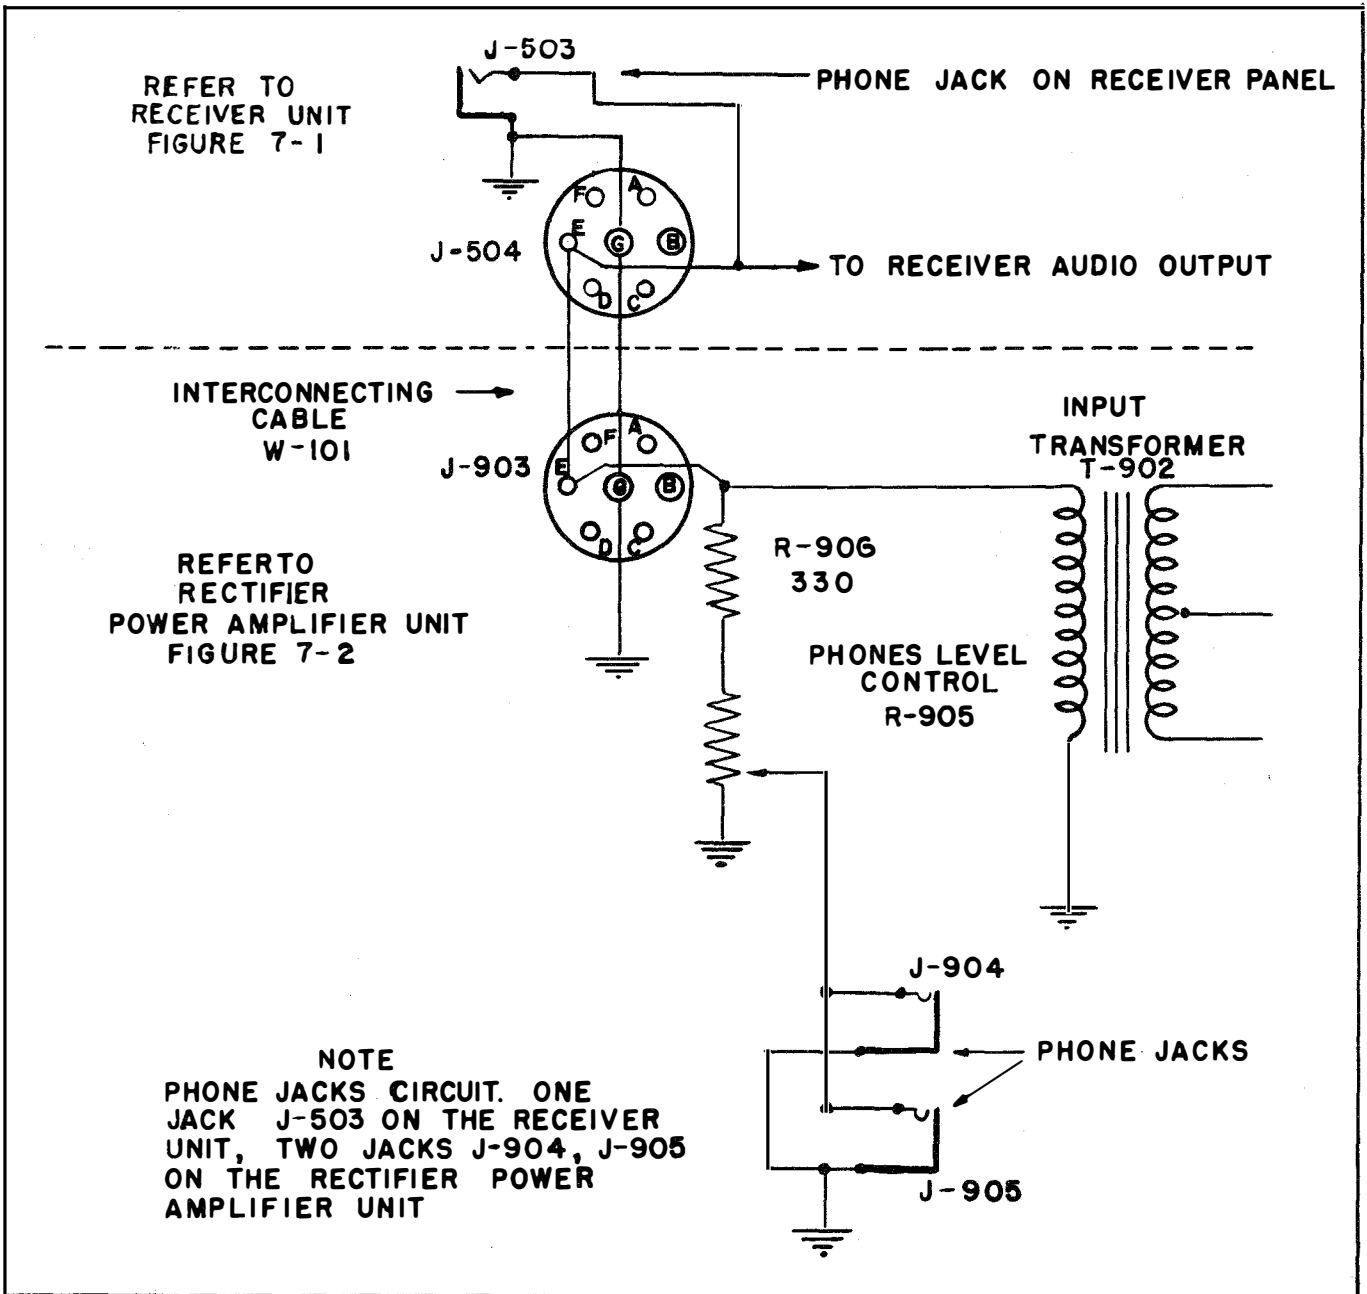
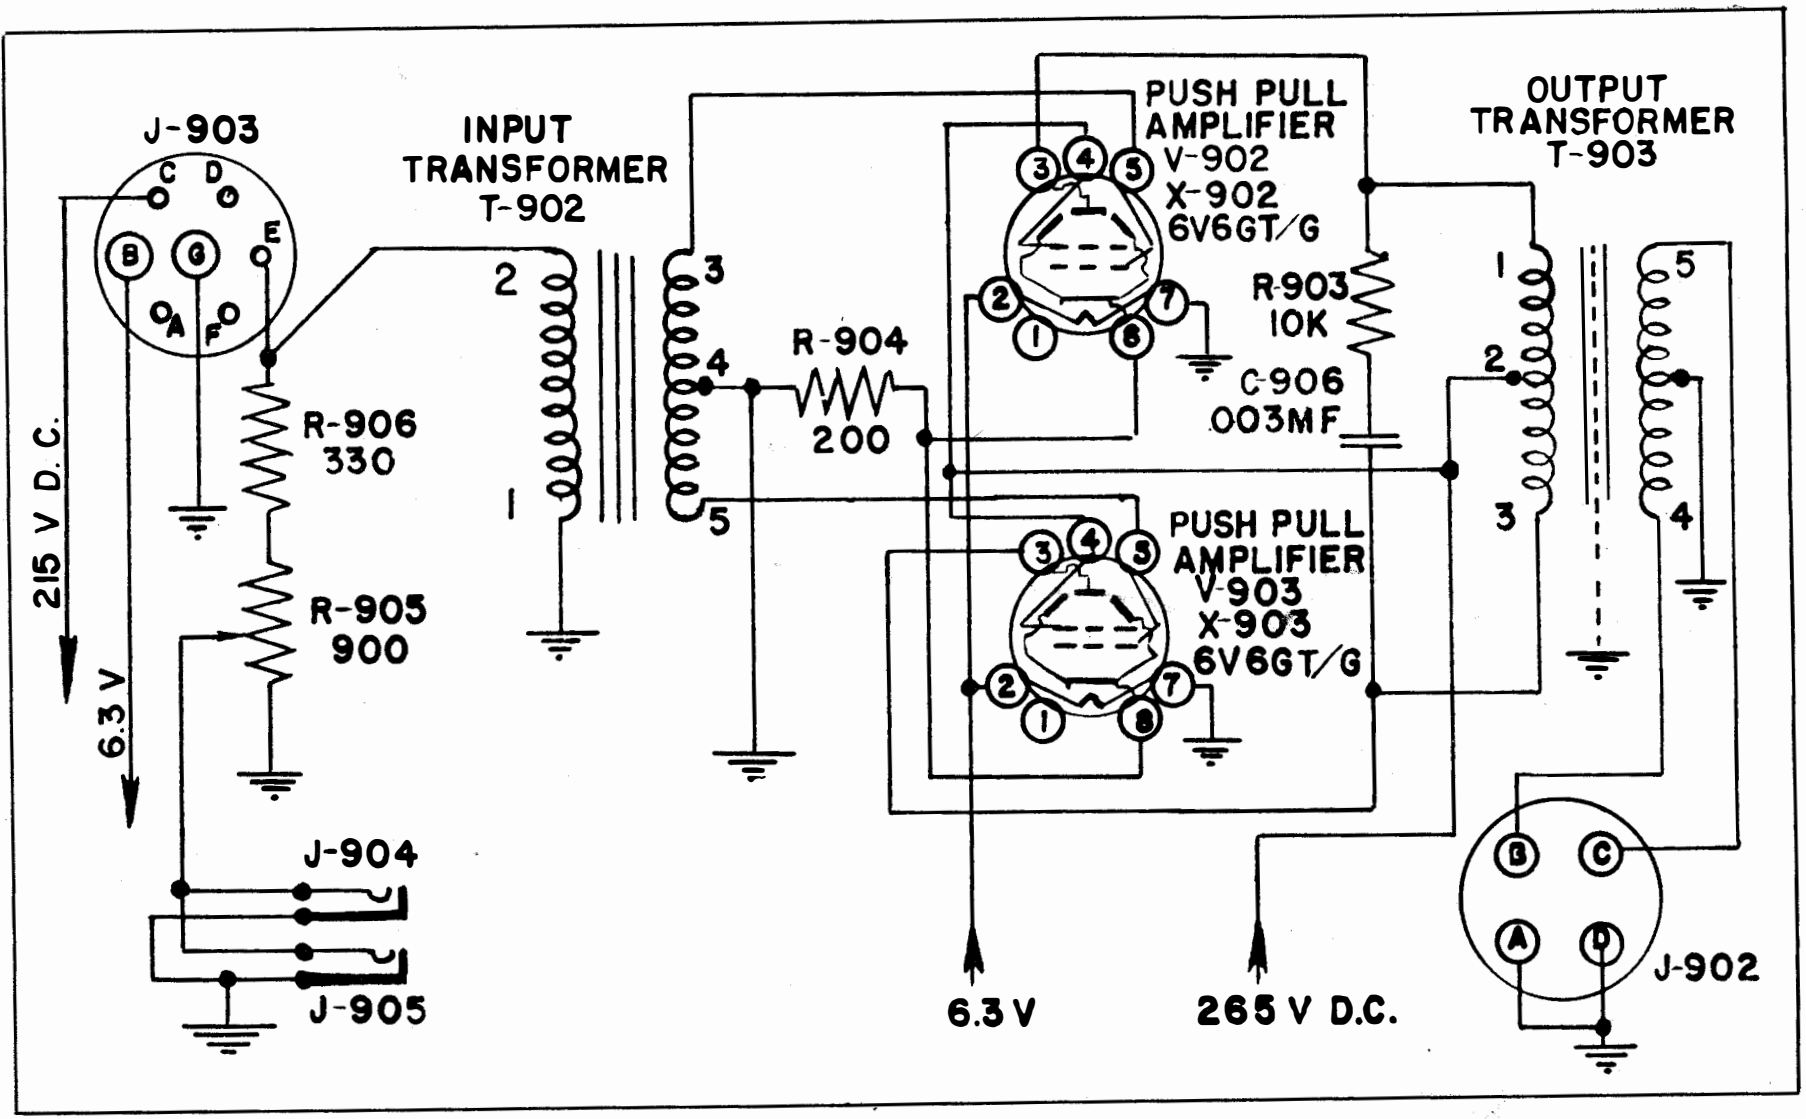

Figure 2-13. Phone Jacks Circuits
Figure 2-14. Push-Pull Amplifier Circuits
The audio output stage consists of a type 6V6-GT electron tube, V-511, and associated components. The output of this stage is coupled through the transformer T-508 to the phones circuit. This transformer provides D.C. isolation of these circuits. From the secondary of the output transformer T-508, the signal passes to terminal E of receptacle P-504 (Figure 2-13), then through the interconnecting cable W-101 to the Rectifier, Power-Amplifier Unit, entering at terminal E of receptacle J-903 and passing to the primary of the input transformer T-902 (Figure 2-14), and to the phone jacks J-904 and J-905. The signal for the phone jack J-503, on the panel of the radio receiver, comes directly from the secondary of the output transformer, T-508. The signal may be received by headphones at these jacks, (J-503, J-904 and J-905)
a. THE PHONES CIRCUIT.—(See Figures 2-13 and 2-14).
The Rectifier, Power Amplifier unit has two headphone jacks, J-904 and J-905, each on the panel. These are connected through receptacles P-504 of the radio receiver and J-903 of the Rectifier, Power-Amplifier Unit through the cable W-101 to the "PHONES" jack on the Receiver panel. (Compare Figure 2-13 with Figures 7-18 and 7-19). Each of these phone jacks receives the signal from the radio receiver audio output transformer T-508. The "HEADPHONE LEVEL CONTROL" on the Rectifier Unit panel regulates the audio output of the phones at this panel by means of the potentiometer R-905 in series with the fixed resistor R-906. The 330 ohm resistor R-906 maintains the output at the phone jack J-503 and the loudspeaker jack J-902 at a substantially constant level regardless of the setting of the control potentiometer R-905 or of the employment of either one or two headphone sets.
b. THE PUSH-PULL AMPLIFIER. (See Figures 2-14 and 7-2).